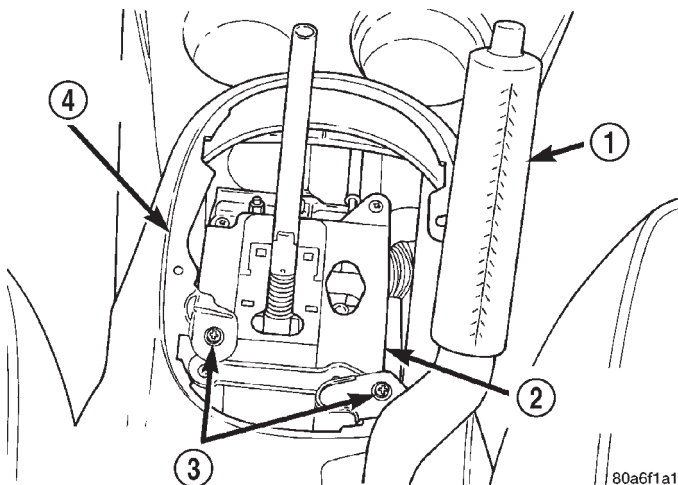

Fig. 125 Center Console Front Attaching Screw
(4) Remove the 2 screws (Fig. 125) attaching the center console to the shifter.
(11) Install the 2 screws attaching the front of the center console to the shifter. (Fig. 125).